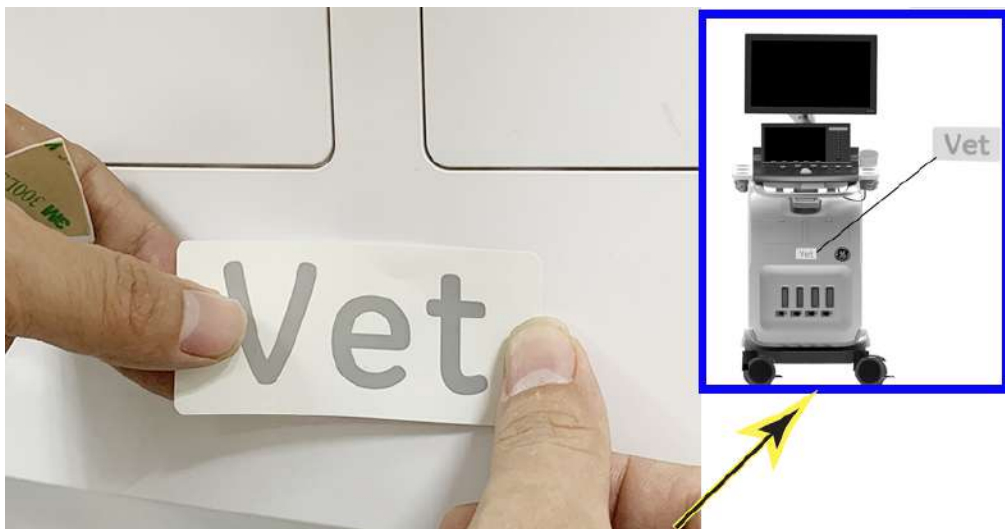

Figure 3-83. Paste the vet label
2. Paste the vet label in the center of the body 3PP/4PP front cover, refer to Figure 3-83 for detail location.